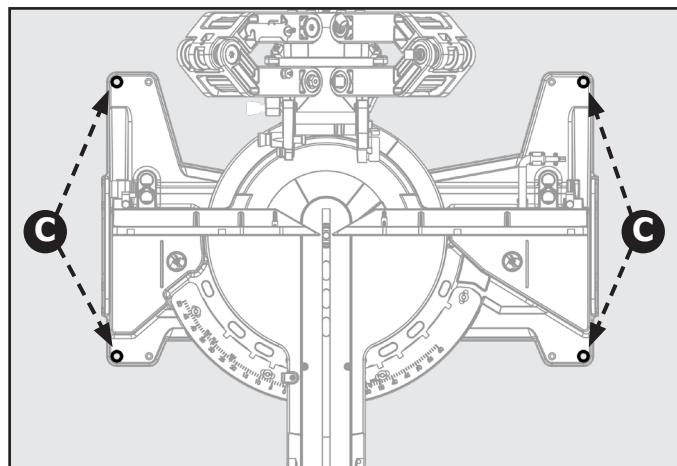

Figure 6
**WARNING:** To ensure safe and accurate operation, this saw should be mounted to a stable and level surface such as a workbench. To mount the tool to a stable surface, refer to Figure 6 and do the following: